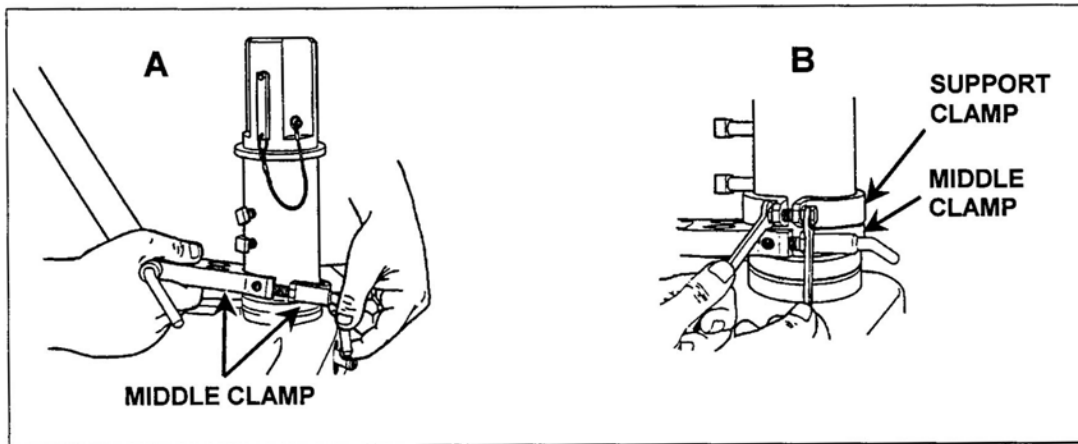

Figure 5. Attaching the T&E Assembly
3. Attach the T&E assembly (A, Figure 5).
- (1) Assemble the middle clamp around the base of the pedestal, about 2 inches below the welded pin (B, Figure 5). Tighten the clamp by turning the train lock clockwise. Using a 9/16-inch wrench, tighten the screw on other side of clamp the same amount that you tightened the first screw.